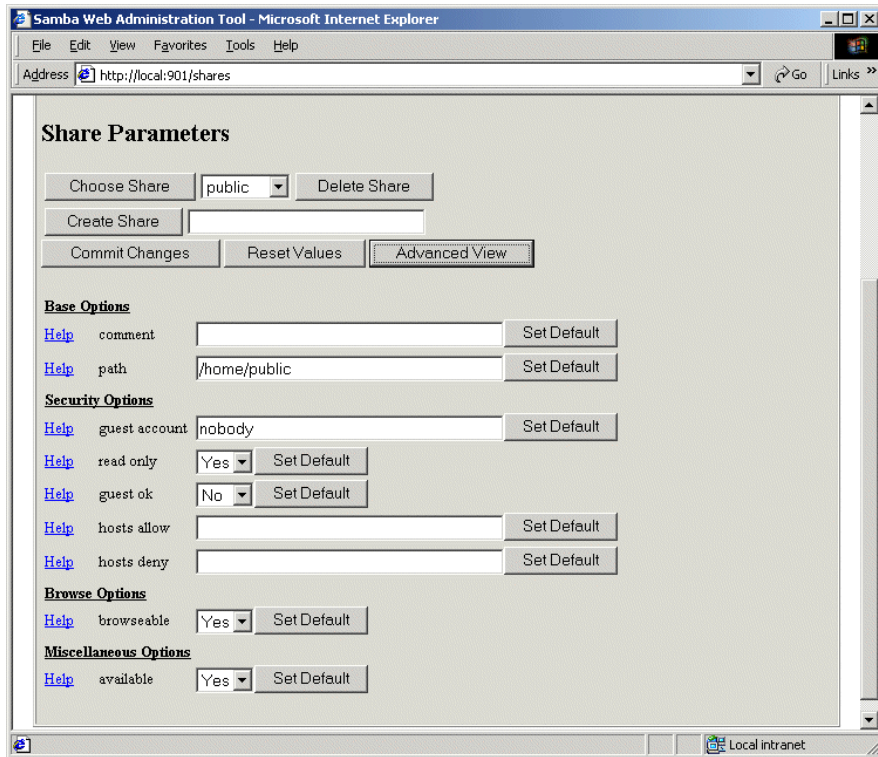

Figure 4-9 Setting share parameters
5. Fill in the needed parameters, as in Figure 4-9. If you need to set more advanced parameters, click **Advanced View**.